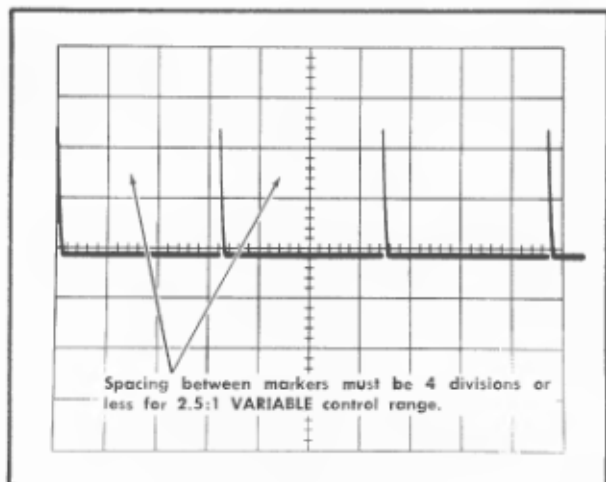

Fig. 6-46. Typical CRT display when checking VARIABLE TIME/DIV control range.
e. CHECK—CRT display for four-division maximum spacing between markers (2.5:1 range; see Fig. 6-46). UNCAL light must be on when VARIABLE TIME/DIV control is not in CAL position.
43. Adjust 10 Microsecond Timing ❶